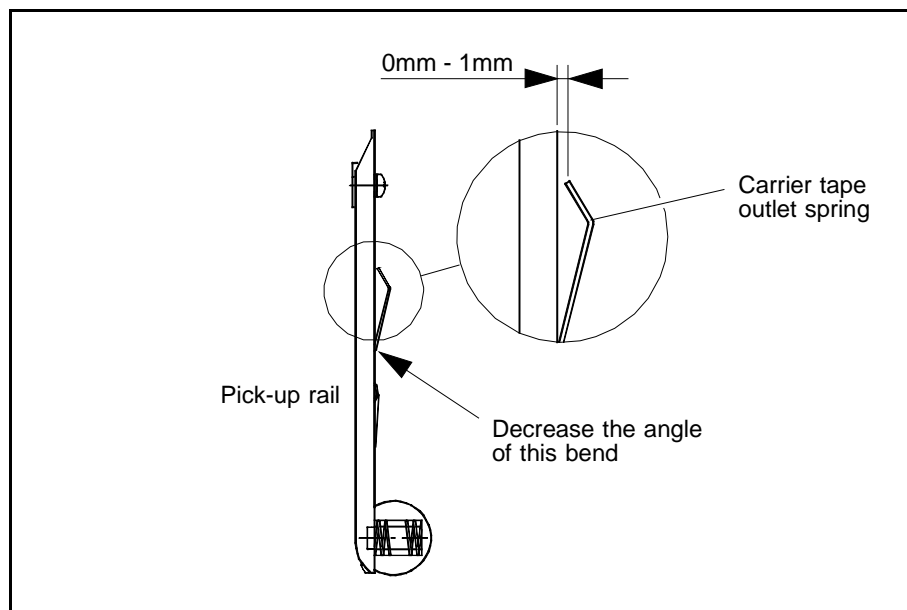

Figure 18. Carrier tape outlet spring
The distance between the carrier tape outlet spring end and the lower pick-up rail surface should be maximum 1mm, see Figure 18. This distance was earlier more than 1mm.
- Measure the distance between the carrier tape outlet spring end and the pick-up rail surface as shown in Figure 18.
- If the distance is 0mm - 1mm, then proceed with the next step. If not, adjust the distance to 0mm - 1mm by decreasing the angle of the bent as indicated in Figure 18.